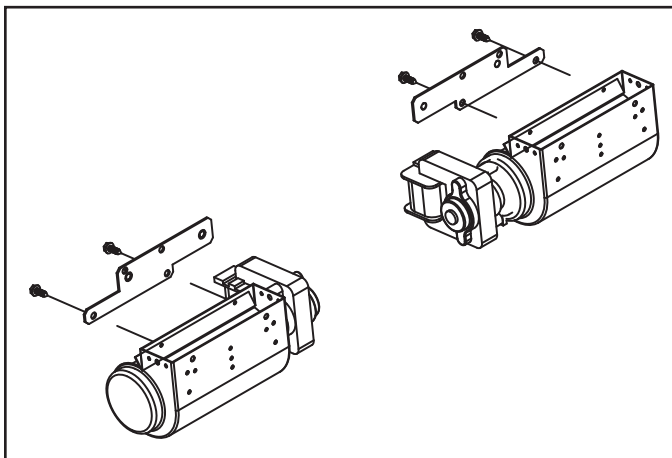

Figure 3. Remove Blower Brackets
1. Remove factory-installed blower brackets by removing four screws. Brackets are only used for the FireBrick inserts. See Figure 3.
2. Slide the temperature sensor switch onto the blower stud located on the bottom of the combustion box. See Figure 3. Secure the temperature sensor switch with the wing nut provided.